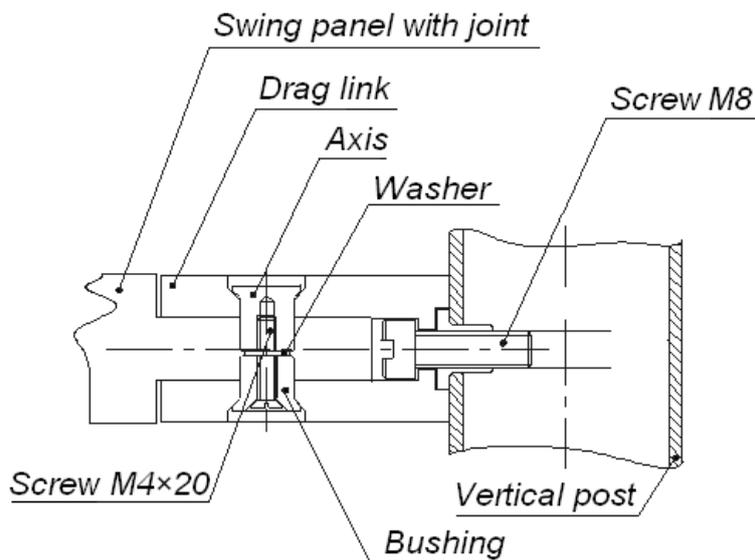

Figure 14 – Fastening of joints to the support post of rotary railing section
3. Fix two drag links on the support post with two M8×25 screws as depicted on Figure 14.
4. Fix two drag links on the support post with two M8×25 screws, as depicted on Figure 14. Install the support post into working position. It is recommended to use 50×20×0,5...0,8 mm mounting pads in order to secure that posts were installed vertically.